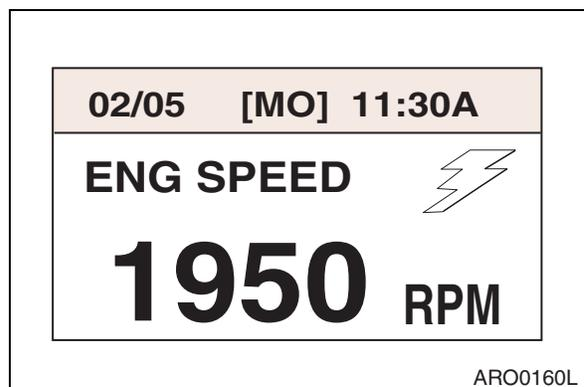
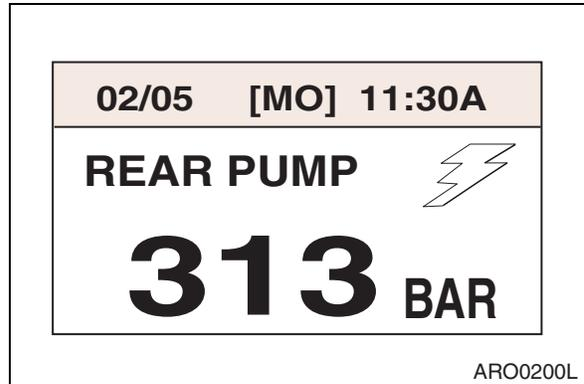

Figure 39
Figure 42
**NOTE:** See Figure 39 thru Figure 42.